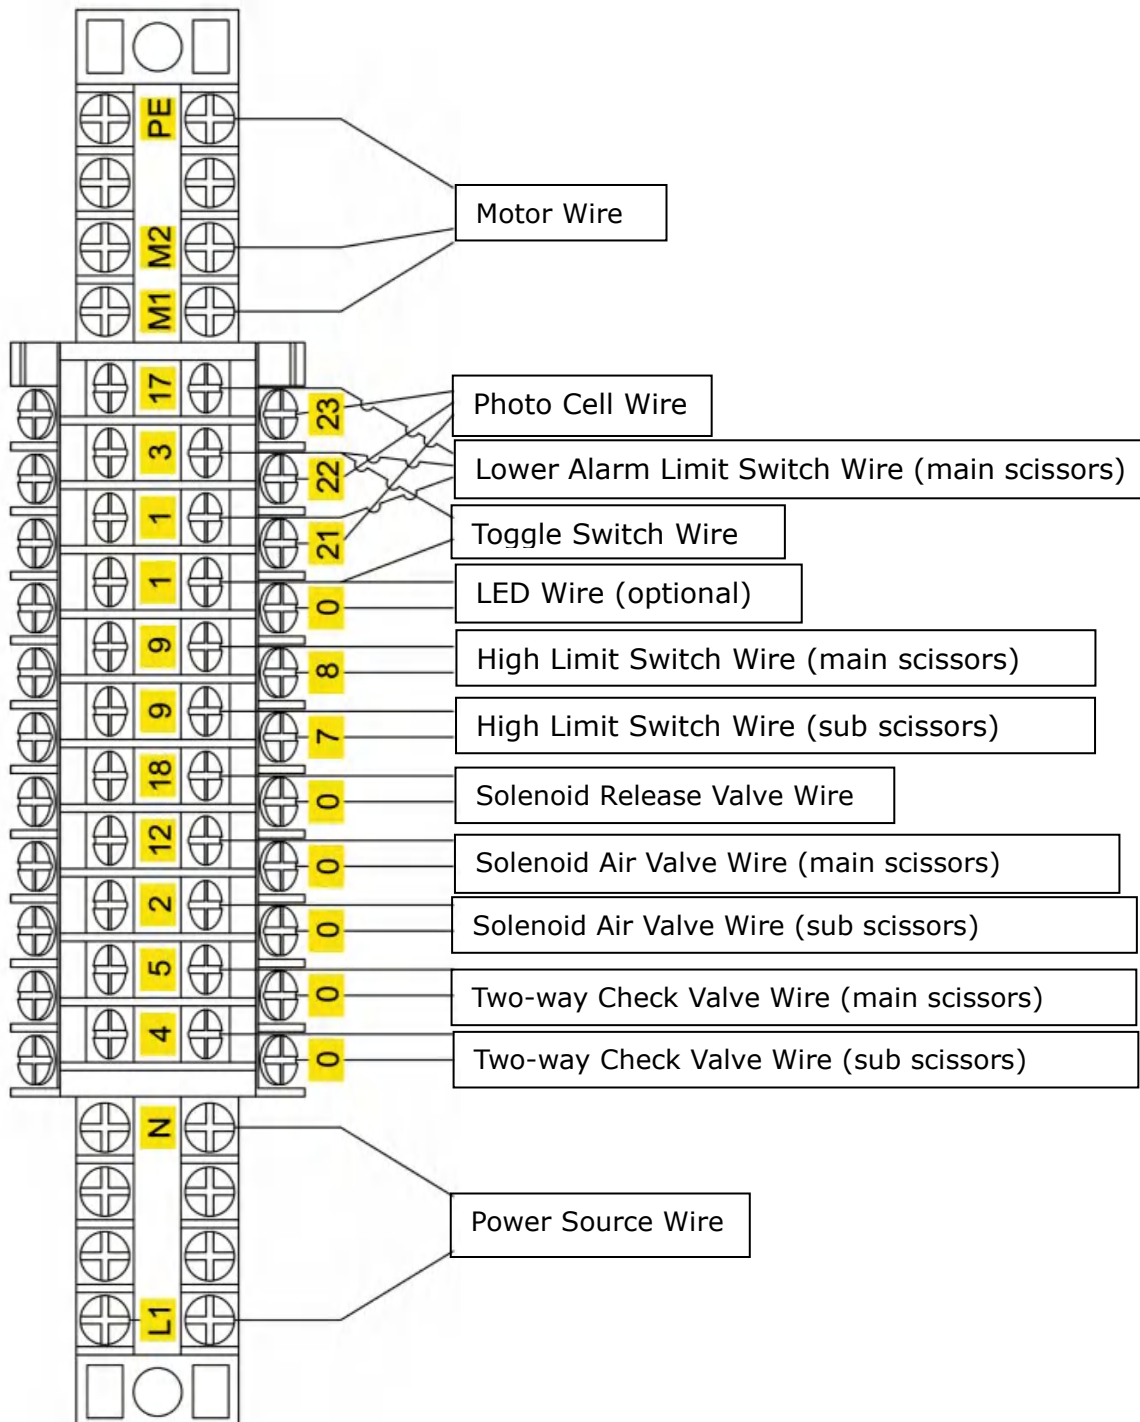

Fig. 18
1.1 Connect the power wire and limit switch wire according to the wiring diagram (See Fig. 18).